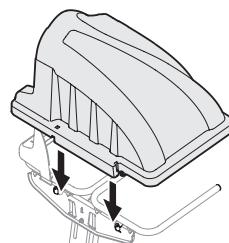

Figure 8
- Install the bagger cover onto the bag support assembly, as seen in Figure 8. The plastic cover goes inside of the two mounting tabs.